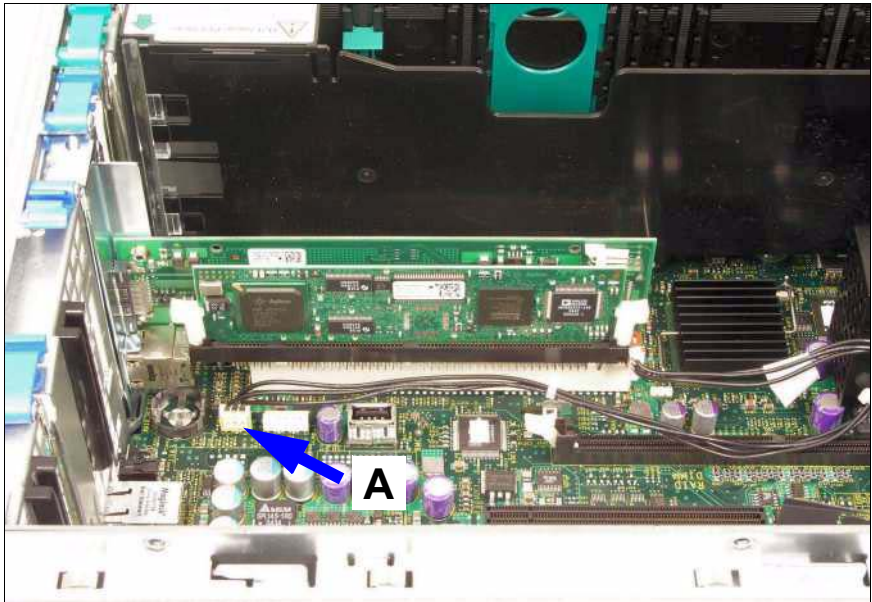

Figure 38: Mounting position and connectors of the RSB S2 LP
- ▶ Check that the IPMB cable is connected to the system board (see (A) in figure 38 on page 54).